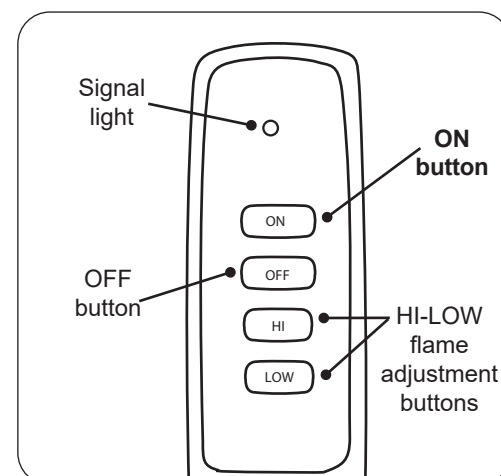

Fig. 31-3 Remote transmitter detail
3. Locate the remote transmitter and press the **ON** button (see Fig. 31-3). The system will beep and the ignition sequence will begin.